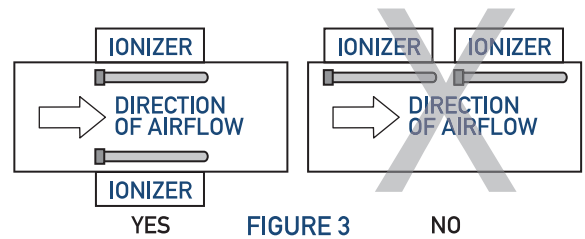

FIGURE 3 YES NO
- 5) If multiple units are installed on the same duct, the units need to be installed around the perimeter of the duct so that ionized air from one unit does not pass over a second ionizing unit. See figure 3